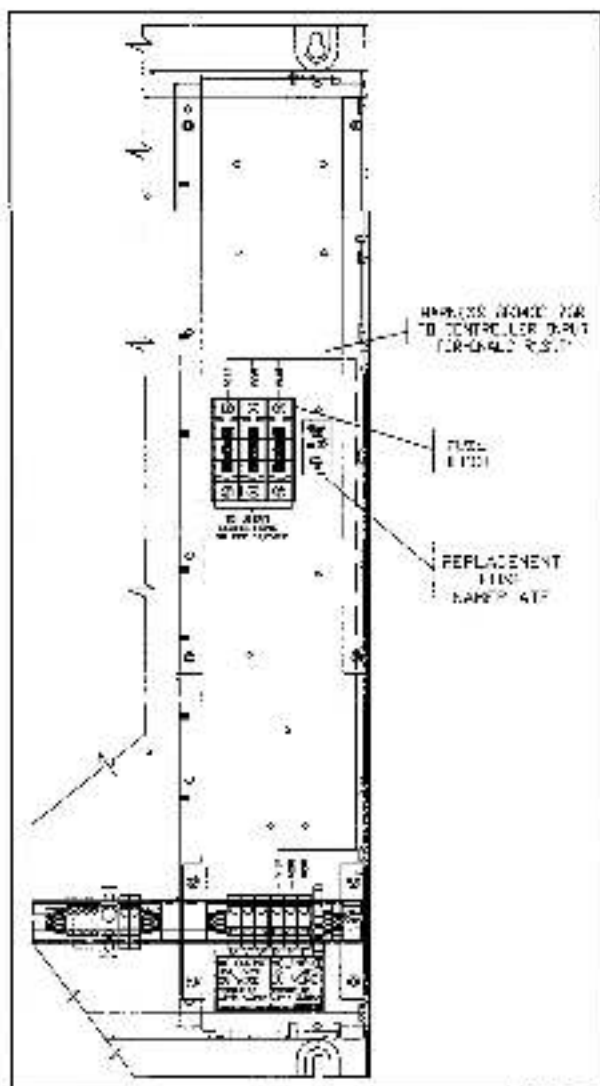

Figure 3. Fuse Block Mounting Location and Connection Diagram (Expanded Cabinet).
3. Mount the fuse block in the Expanded Cabinet. Refer to Figure 3 for mounting location. Use M4 x 10 TTS screws to mount the fuse block.
5. Using wire harness 803432-76R (181A, 182A, and 183A), connect the terminals on the top of the fuse block to input terminals R', S', and T' on the terminal board. Refer to Figure 3 for wiring detail.
6. Using wire selected in accordance with all applicable codes, connect the leads on the RPM blower motor to the terminals on the bottom end of the fuse block. Route the motor lead wiring through an appropriate conduit hole on the top or bottom of the Expanded Cabinet. Refer to Figure 3 for wiring detail.